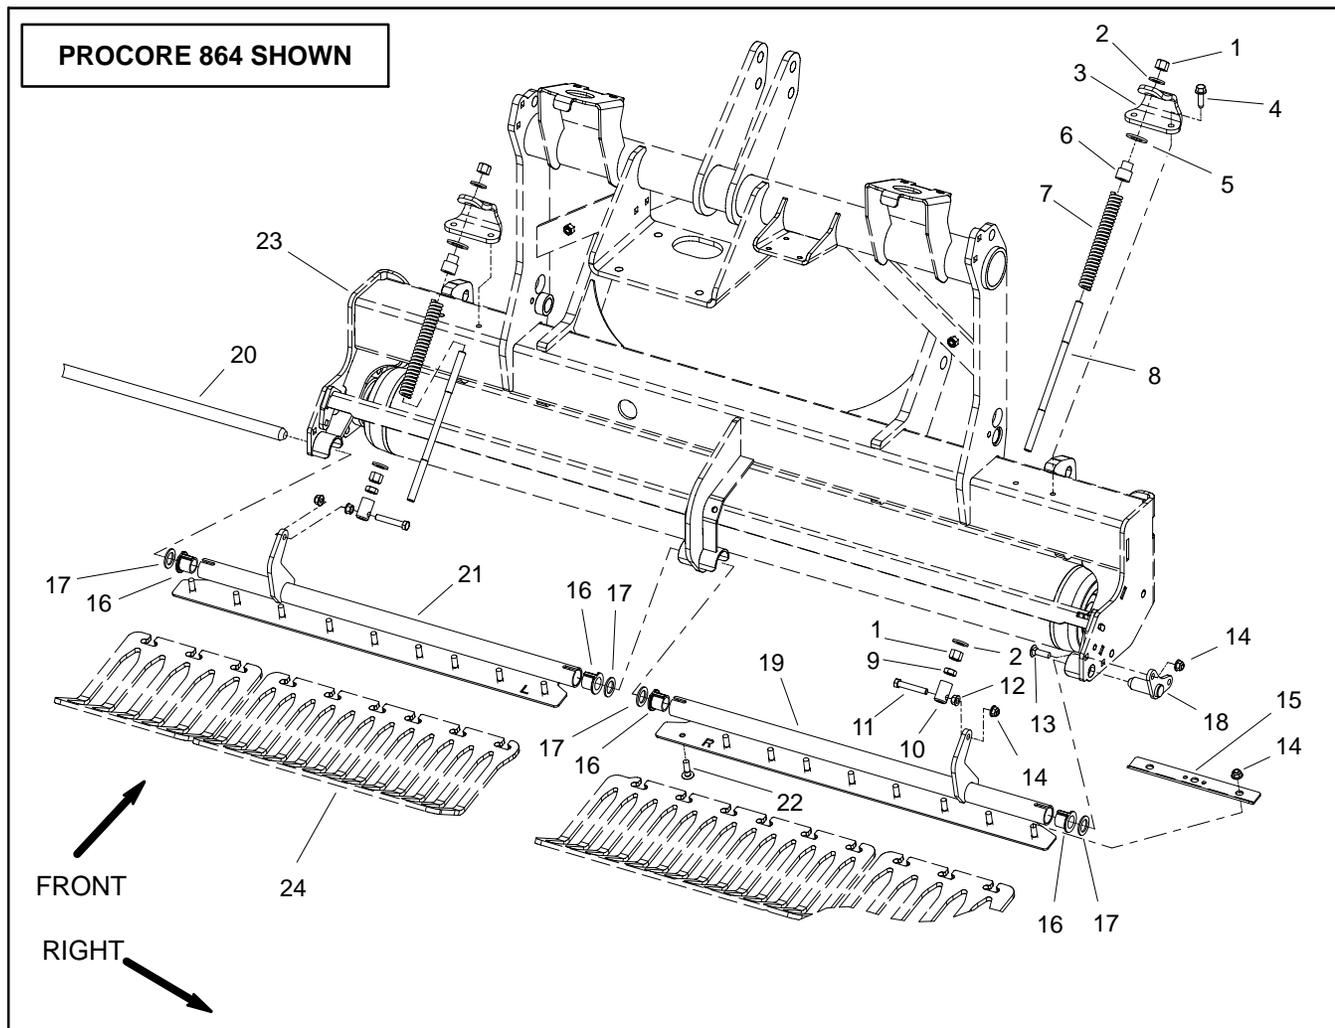
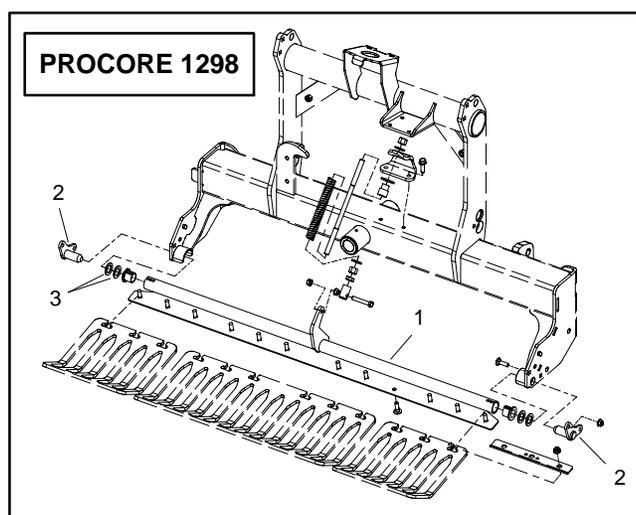
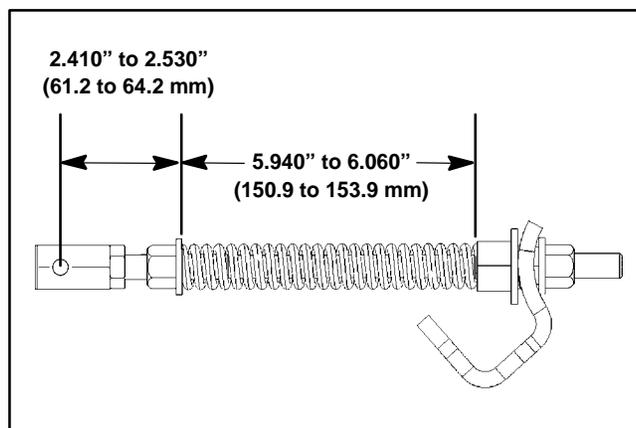

Figure 2
Figure 3
Figure 4
Removal (Fig. 2)
NOTE: On ProCore 864 machines, there is one (1) thrust washer on each side of the turf guard. On ProCore 1298 machines, there are two (2) thrust washers on each side of turf guard (Fig. 3).
6. Disassemble turf guard and spring assembly as needed using Figure 2 as a guide.
7. If necessary, use press to remove rib neck screws (item 22) from turf guard.
Installation (Fig. 2)
2. Assemble turf guard and spring assembly as needed using Figure 2 as a guide. If spring assembly was taken apart, use dimensions shown in Figure 4 during the assembly process.
3. Make sure that keyed flange bushing (item 16) is correctly placed in each end of turf guard. Position turf guard assembly to aerator.
5. On both sides of frame, slide turf guard pivot shafts through frame and into turf guard. Secure pivot shafts to frame with two (2) carriage screws and flange nuts.
- A. Slide end of cap screw (item 11) through bracket on turf guard.